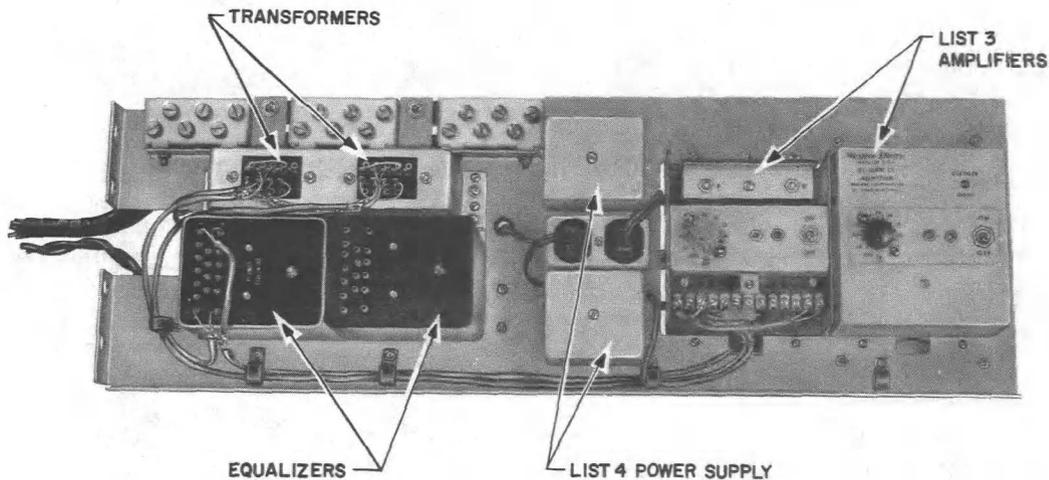

Fig. 1 — Equipment Mounted on Bracket of 467-Type Apparatus Case, Front View
2.01 Fig. 1 and 2 show a typical arrangement of apparatus on the mounting plate of a 467-type apparatus case. The mounting hardware is supplied with the apparatus case.
3.02 Fig. 1 shows a typical wiring layout for use with the 467-type apparatus case.